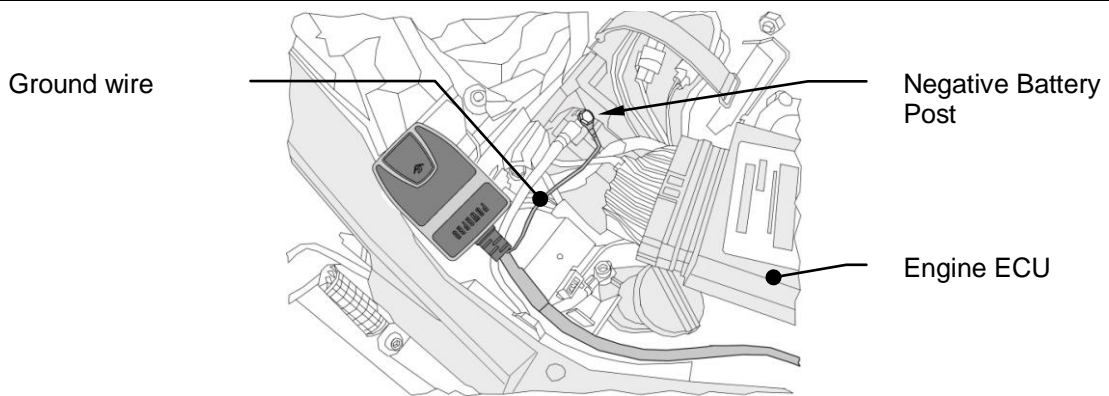

FIGURE 3
4. Unstrap the stock ECU from it location and move to the side to allow access to the battery post. Connect the Fi2000's ground lead to the *Negative* battery post, (Fig. 3).
7. When everything checks out in order, mount the ECU to the stock location and mount the Fi2000 to the top of the ECU with the supplied Velcro, (Fig. 3). Zip tie the Fi2000 harness to the right frame rail and existing harness with the supplied zip ties. Reinstall the air cleaner housing. Make sure the Fi2000 harness is not pinched between frame rail and fuel tank grommet. Reinstall fuel tank and seat.